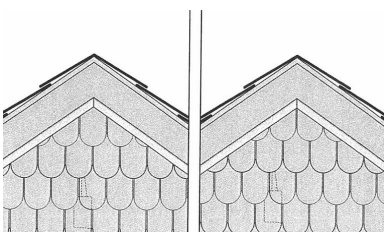

Fig.30
b. Carefully check alignment of Round Cuts to center full or partial rounds as needed and cut (see Figure 30).